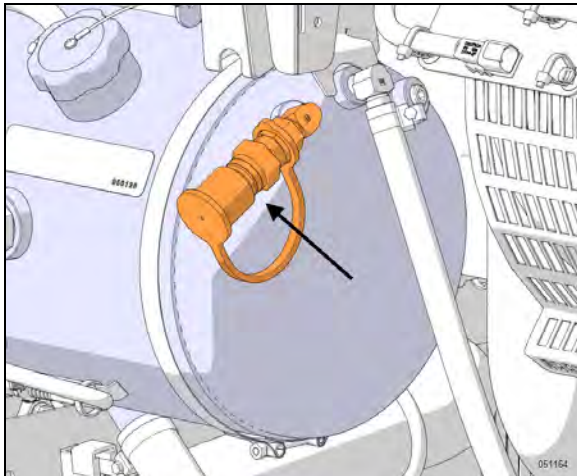

FIGURE 3: HANSEN QUICK COUPLING
- Pressurize system periodically using Hansen Quick Coupling (Figure 3).